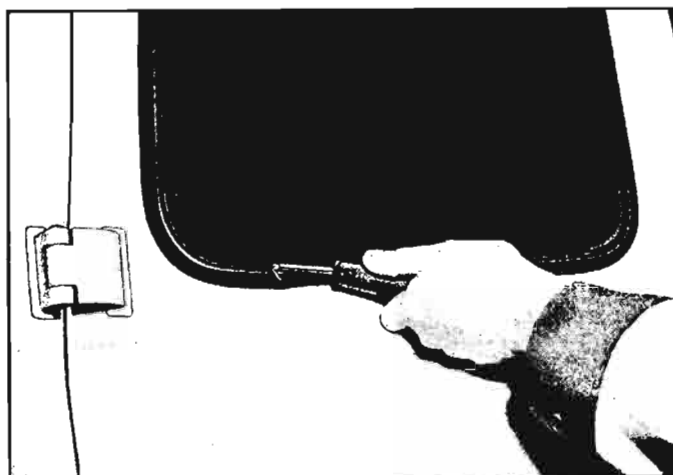

Fig. 10-90a—Installing Rear Door Glass Weatherstrip Retainer
8. While holding the tool firmly, with spreading end in channel, follow around the channel spreading it open and feeding retainer into the opening until the full length of the retainer has been fed into the channel (fig. 10-90a). The ends of the retainer should join at the bottom center.